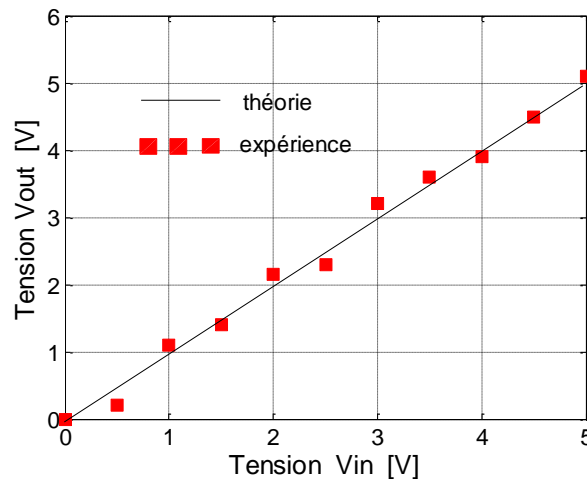

Figure 1: Variation in the output voltage V_{out} in reaction to input voltage V_{in} on TL081 (25°C, $\times 10$ probe)
- All figures must be accompanied by an explanatory caption, along with details of the measuring conditions as indicated in Figure 1. The number of each figure should also be incorporated into your text, ahead of the corresponding image.
"... *Figure 1 shows the variation in the output voltage V_{out} in reaction to input voltage V_{in} on TL081, measured at 25°C with an $\times 10$ probe....* "